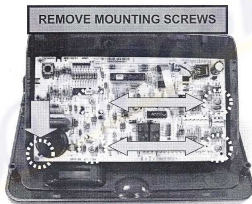

Fig. 6
3. Remove screws as shown in Fig. 6.